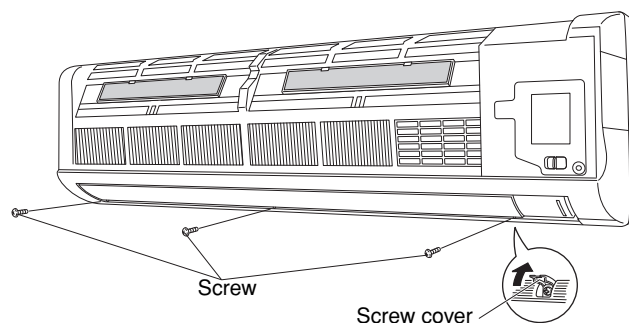

Fig. 17-4
- (2) Remove the 3 screws where the screw covers are open. (Fig. 17-4)